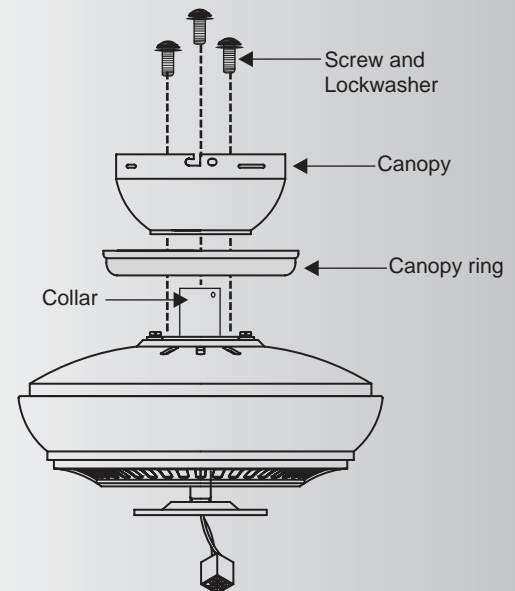

Fig. 12
5. Place the rubber gasket over the remaining three screws, route the wires exiting the top of the fan motor through the canopy ring (make sure the slot openings of the ring are on top). then proceed to place the ceiling canopy over the collar at the top of the motor. Align the mounting holes with the holes in the motor and fasten using the screws and lock washers provided. (Fig. 12).
6. Tighten the mounting screws securely. (Fig. 12)